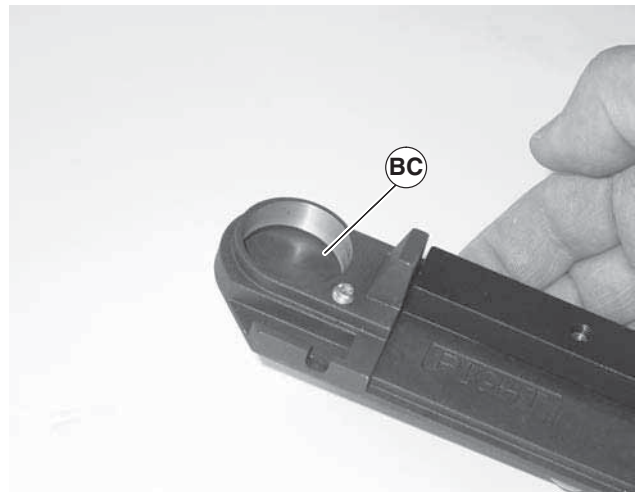

Figure 37
1. Inspect the head plates bearing seating surface (Figure 37, item BC). If they are worn or damaged, replace the head. See "Service Parts" beginning on page 20.